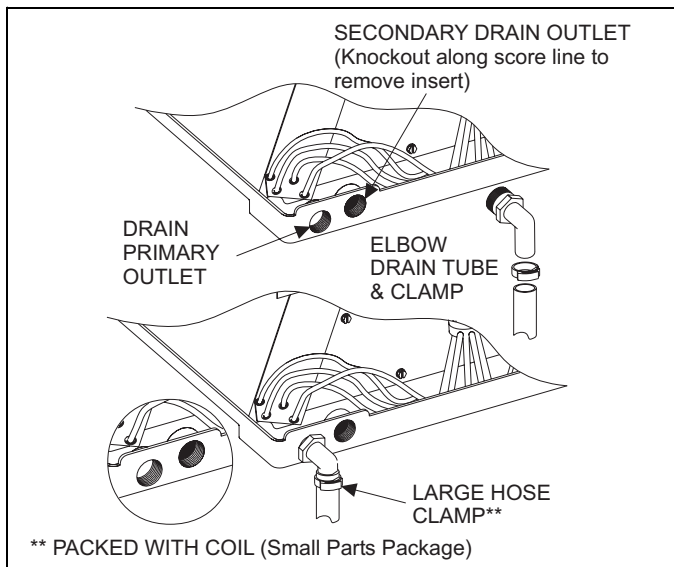

FIGURE 4: Overflow Drain
3. Install elbow in drain pan as shown in Figure 4.
6. Install elbow in drain pan as shown in Figure 4.
- The elbow and drain tube must be installed. Secure with hose clamp as shown in Figure 4.